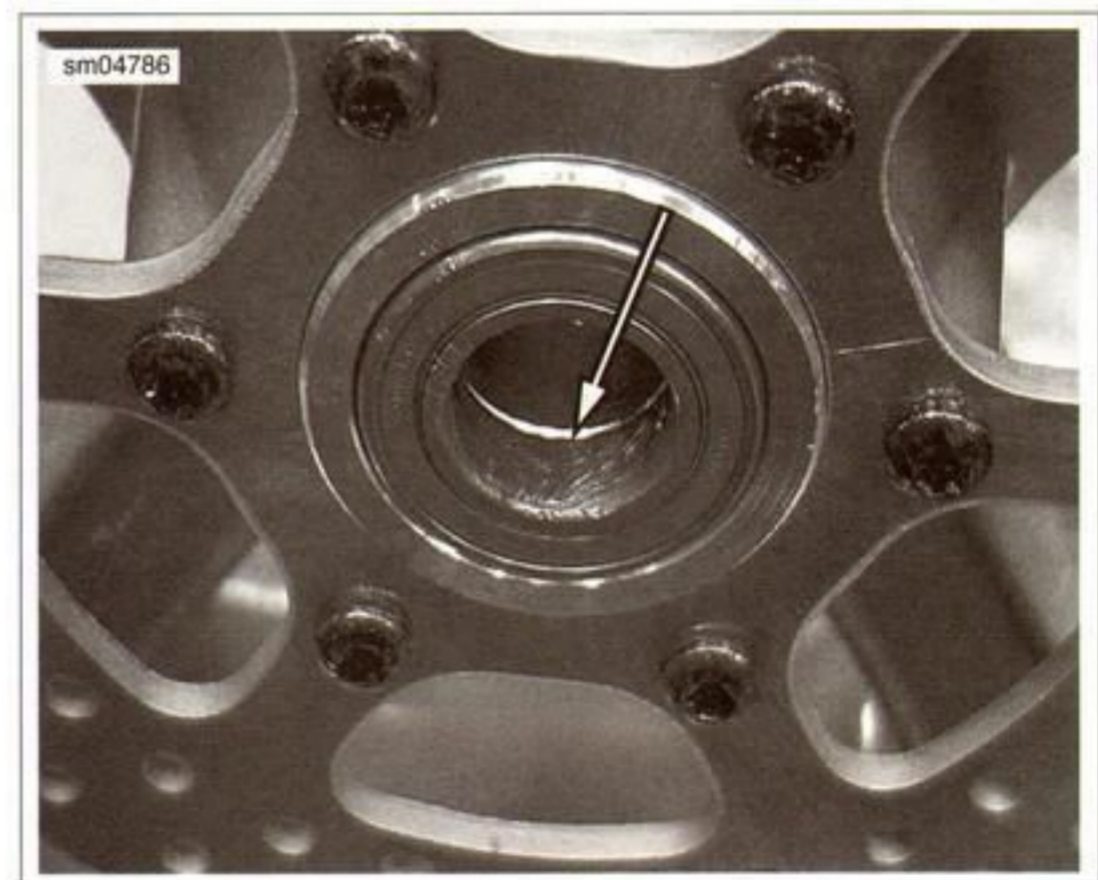

Figure 2-31. Anti-Seize in Wheel Bearing Inner Race
1. See Figure 2-31. Apply a light coat of LOCTITE ANTI-SEIZE LUBRICANT to the wheel bearing inner race, and the bore of the spacer.